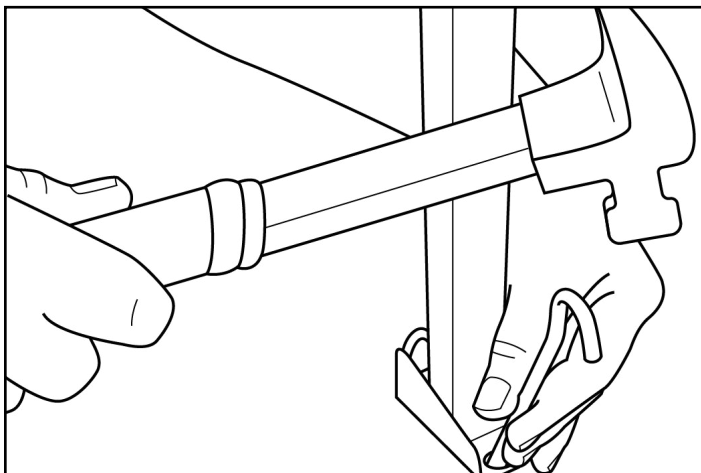

Fig.46
11. At the bottom of the Ground Support assembly, hammer the two stakes through the holes into the ground (Fig.46) for added stability.